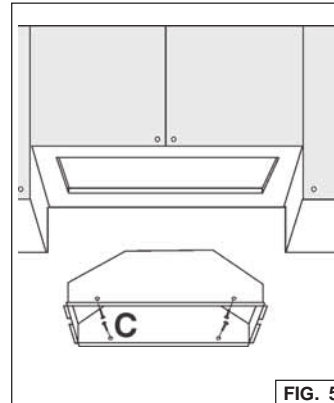
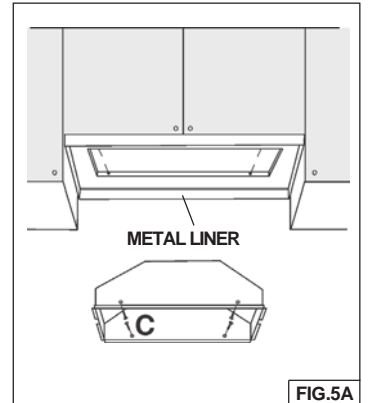

FIG. 5
FIG. 5A
4. **NOTE:** For installations where the Power Pack is less than 30" above cook top, it is recommended that the Power Pack be mounted into a metal liner or non-combustible material. This will allow easier cleaning and provide protection to the cabinetry (Fig.5A).
6. Insert the hood in the cabinet (Fig. 5) or metal liner (Fig. 5A) and secure with the (4) "C" mounting sheet metal screws. (Fig. 5 - wood bottom installation; recommended thickness 1/2"-3/4"). (For alternate mounting, use machine screws with washers and nuts. This alternate mounting method needs to be done prior to installation of metal liner).